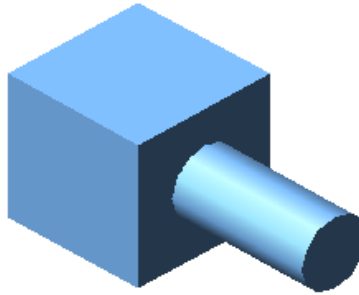

Figure Step 10
Step 10 Set the current visual style to Realistic. Move the cylinder 3 inches towards the box as shown in the figure. (Figure Step 10)